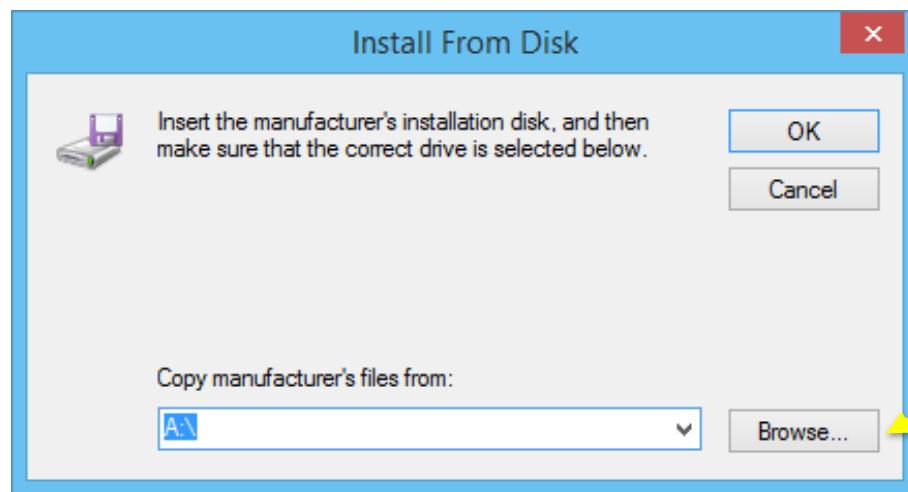

Figure 7
14. Check that the *Copy manufacturer's files from:* field in the *Install From Disk* window (see Figure 7) is populated with the location (path) of the CoolLED-pE.inf file.